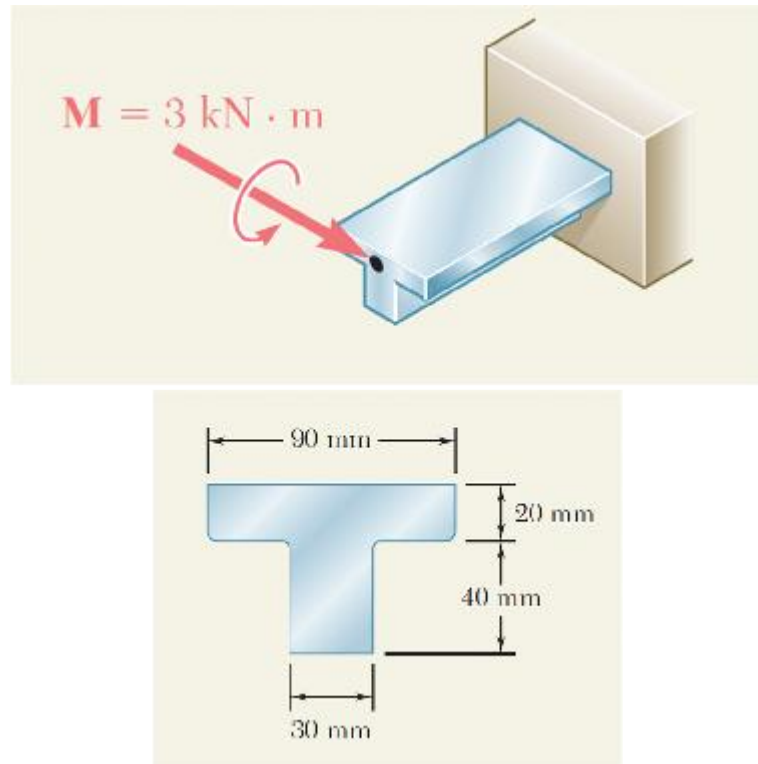

Figure Q.11
11. The cantilever beam shown in **Figure Q.11** is subjected to a 3 kN-m couple. Knowing that $E = 165 \text{ GPa}$ and neglecting the effect of fillets, what is the maximum compressive stress?